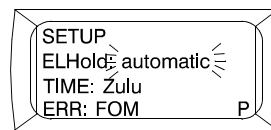

Figure 14. Automatic Display
3. Press the up arrow key (figure 1, item 2) or down arrow key (figure 1, item 3) until automatic is flashing for ELHold (figure 14).